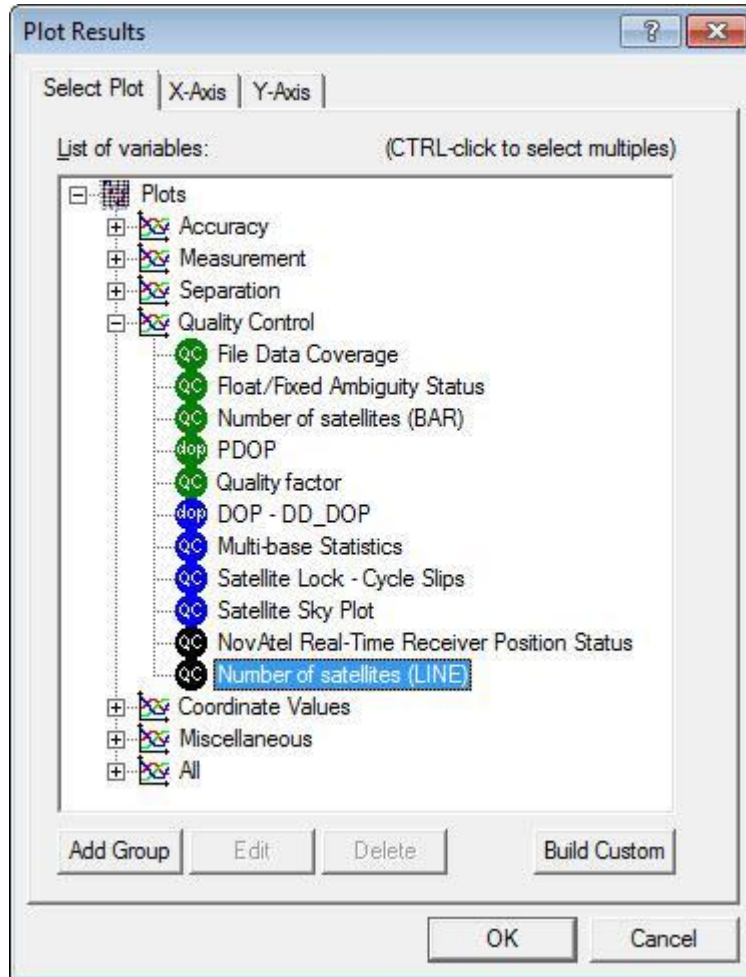

Figure 7-10 Plot Results Dialog
- In the **Plot Results** dialog (Figure 7-10), click on the **Select Plot** tab.